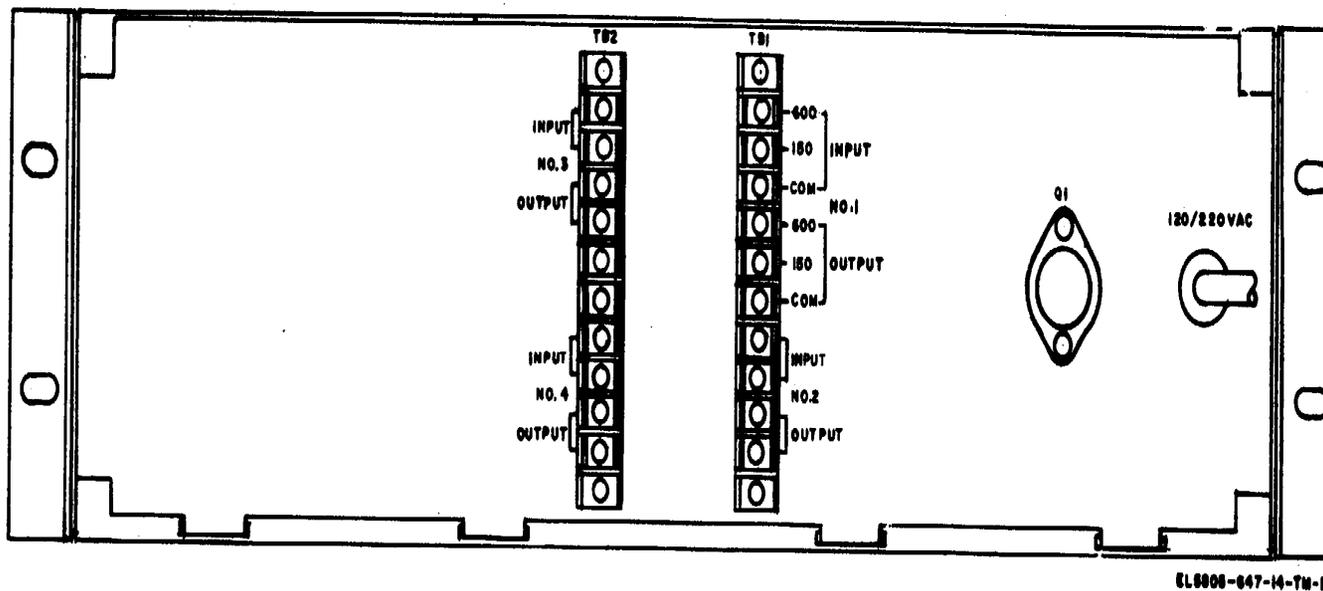

Figure 2-9. Local Orderwire Unit 41010-97, connection terminals (rear).
f. Local Orderwire Unit, 41010-97 Installation. The local orderwire shelf is provided for all in. terminal connections including the optional modules (40472-03 dual amplifier and 40455-03 4W/4W bridge). External connections are made to the rear terminals shown on figure 2-9. Refer to figure FO-6, wiring diagram, for interconnection layout.
(1) Without the optional modules inserted, the input and outputs are connected to the shelf as follows:
(2) When the 40472-03 dual amplifier modules and the 40455-03 4W/4W bridge module are installed, the #1 Input connection is not used; the input to the speaker amplifier is derived from the 40472-03 module inserted in J4. A combination of other inputs and outputs can be utilized.